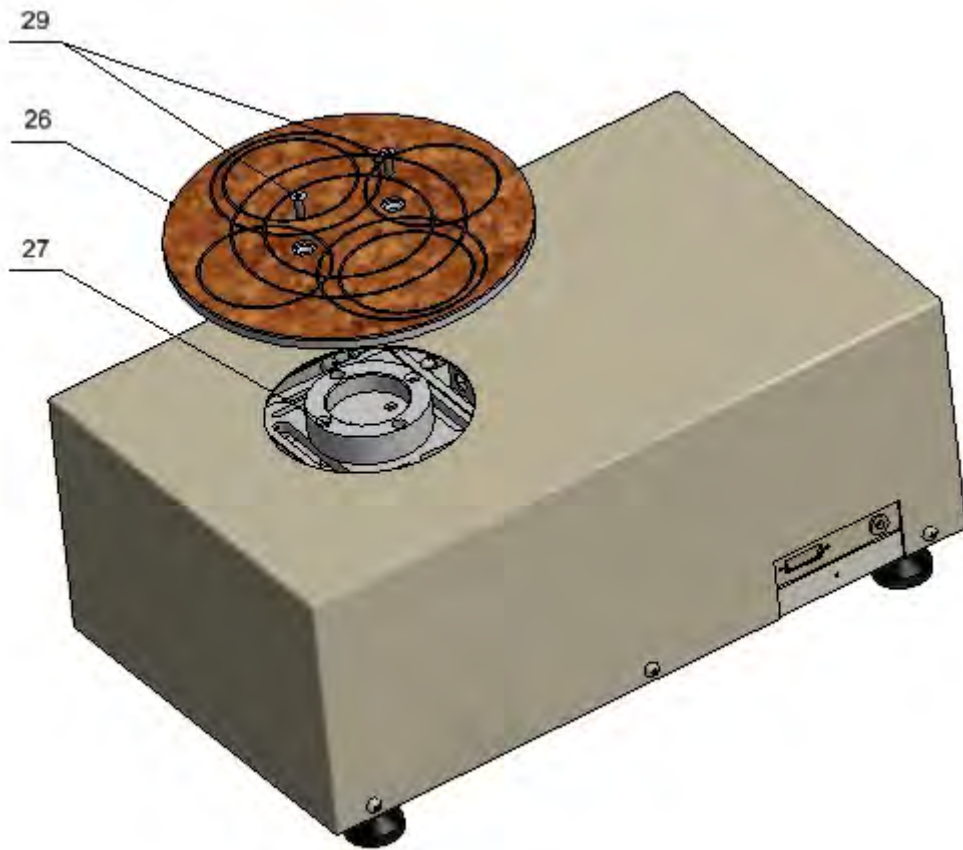

Fig.12
- Use two M5 screws (29) to fix a weighing pan (26) to a spacer sleeve (27). (Fig.12)
- Unscrew self-centring pan (26). (Fig.12)